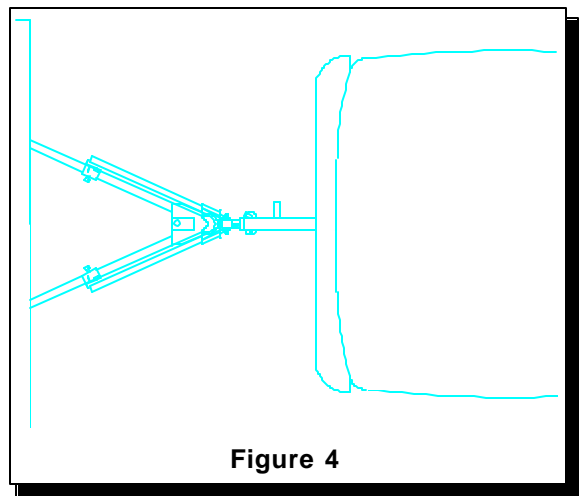

Figure 4
6. Secure trailer ball to ballmount (V) with nut and lockwasher provided with ball. Tighten nut securely.
9. Insert spring bars (E) into ballmount (V); refer to **Figure 4**.